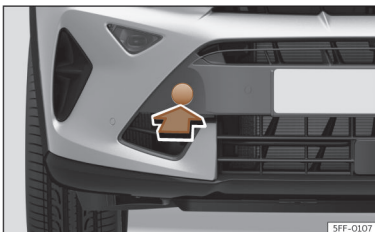

Fig. 213 Front bumper on right: remove the lid.
The housing of the removable towline anchorage is on the right side of the front bumper underneath a cover >>> **Fig. 213**.
- Remove the cover by pressing down on its base and leave it hanging from the vehicle >>> **Fig. 213**.